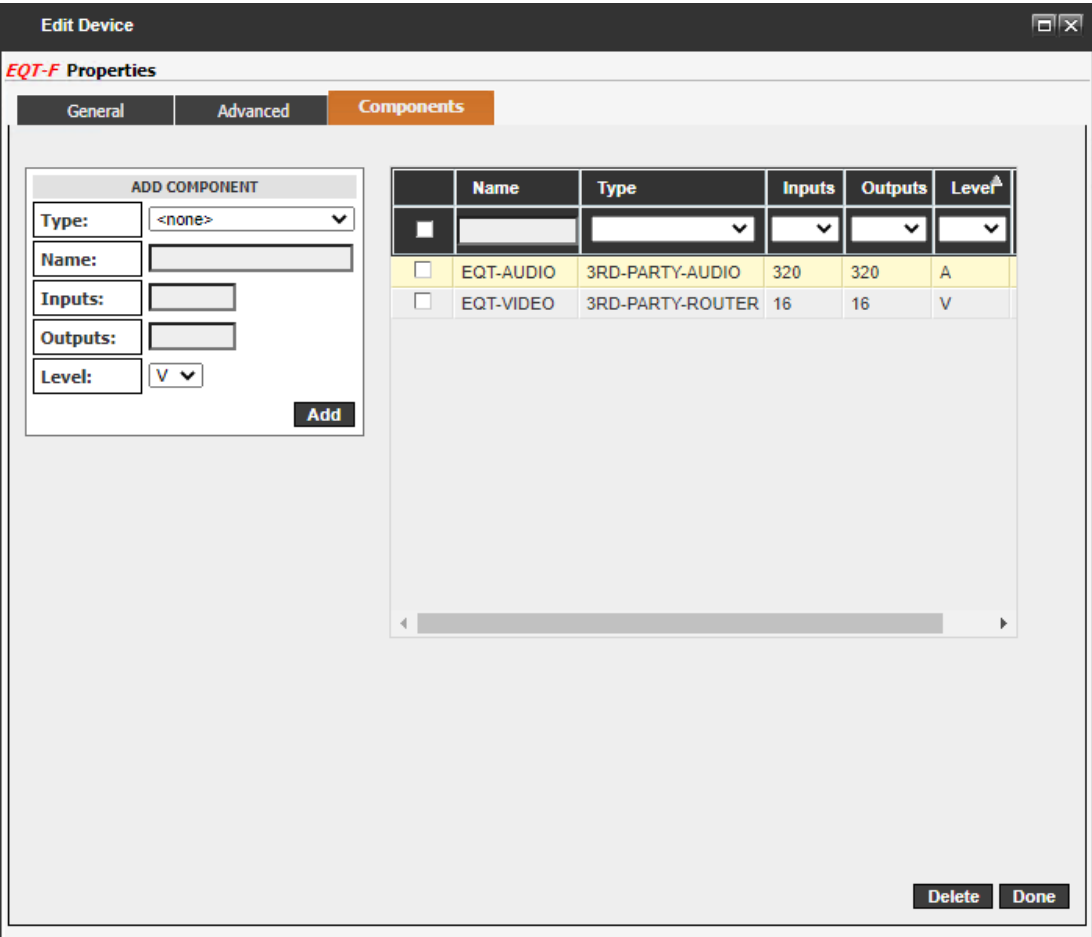

Figure 9-7: MAGNUM - Edit Device Dialog
10. In *Edit Devices* dialog, select the type component: “3RD-PARTY-ROUTER” to control video and/or “3RD-PARTY-AUDIO” to control audio. Enter the name and the quantity of inputs and outputs. Also, select the level of each component (see Figure 9-7 for details).